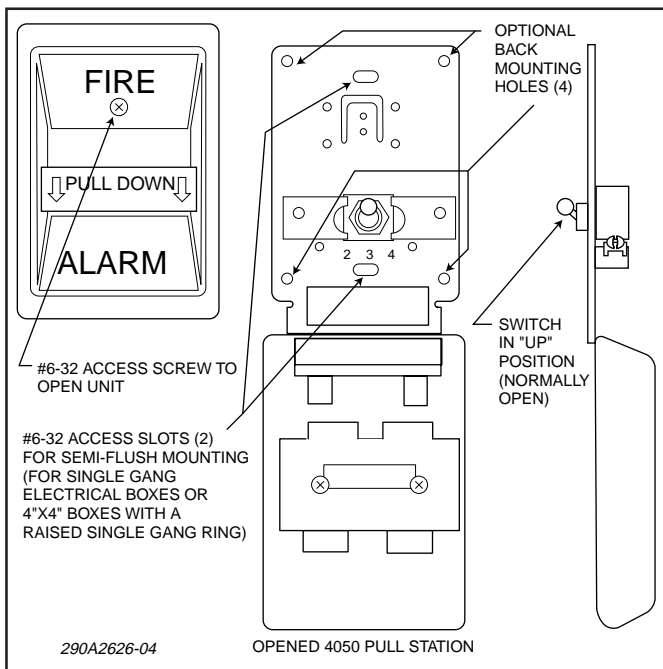

Figure 4.
Property damage, serious injury or death could occur in the protected premises if you do not follow the correct closing procedure. Before closing the station, ensure that the switch is in the "up" (normally open) position (see figure 4), and that the mounting screws do not interfere with the internal mechanism and closing of the station.
- a. Semi-flush Mounting (see figure 4).
- b. Surface Mounting (see figures 4 and 5).